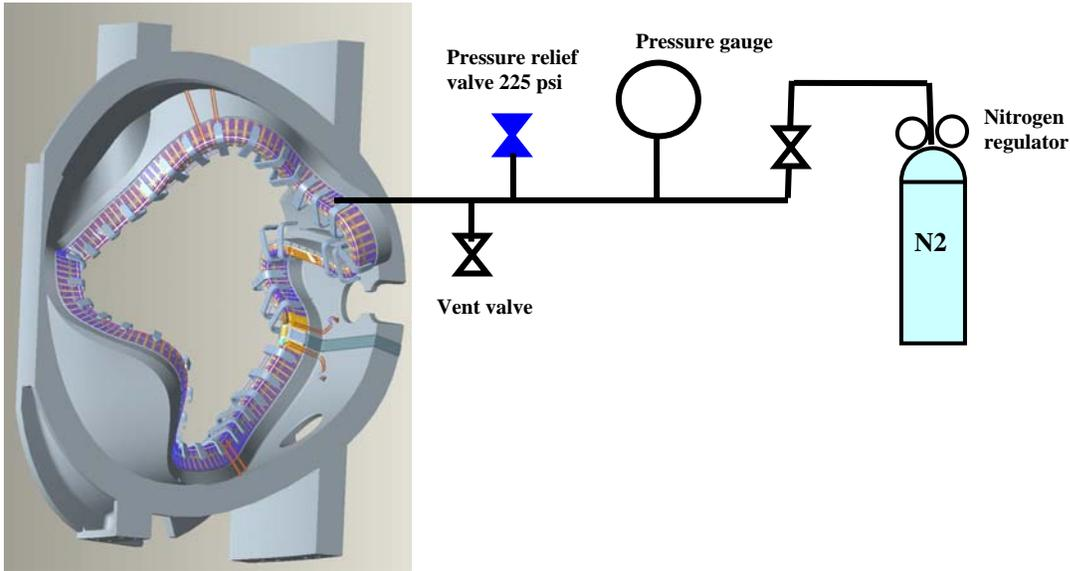

Figure 36- Pressure Test Schematic
- 6.34.1 Connect the cooling tubes together using compression fittings to form a series connection so that the entire system can be tested together. If there is a problem, the connections can broke and the system tested in sections. See Figure 36- Pressure Test Schematic